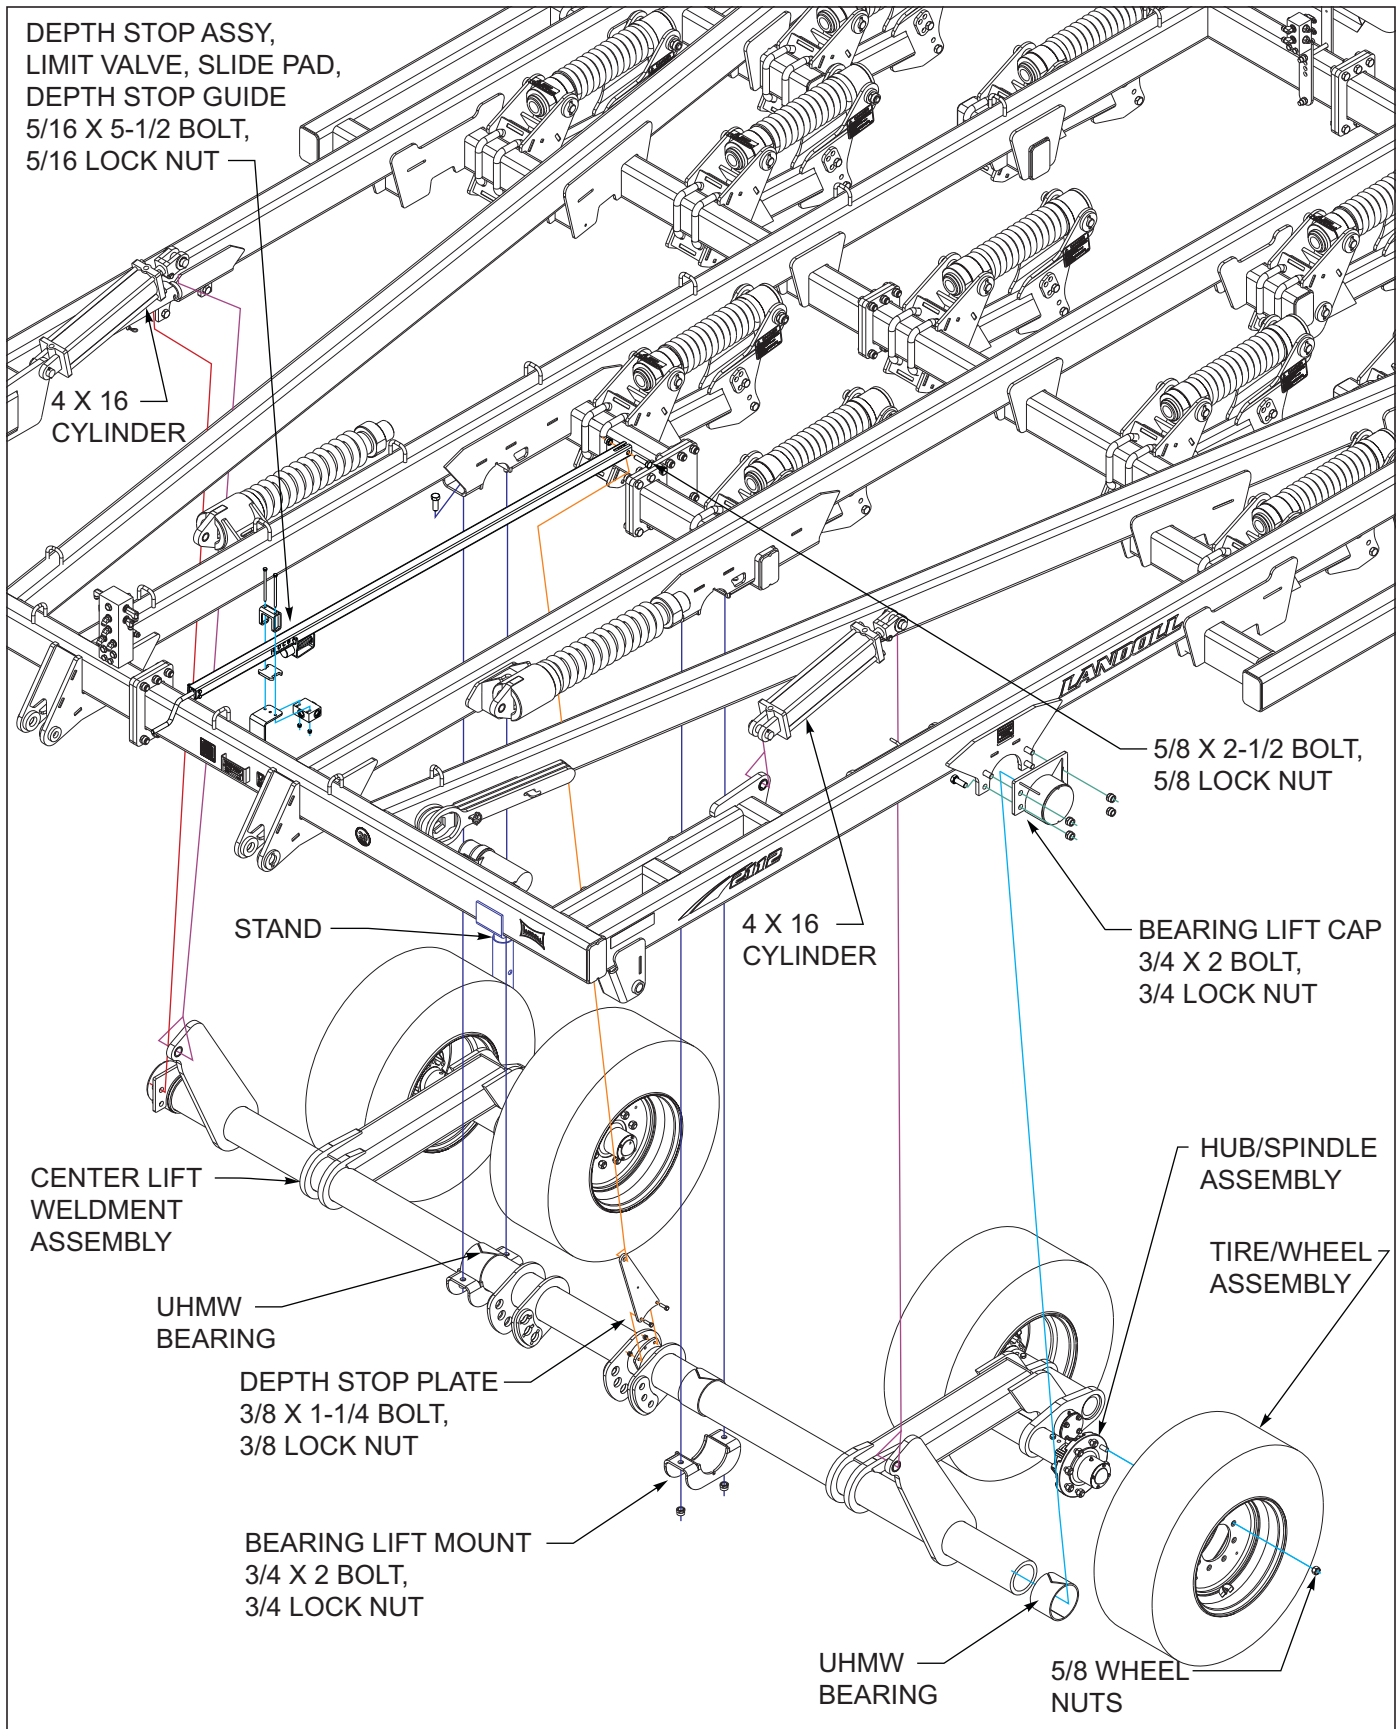

Figure 3-6: Center Frame Lift Assembly 2112-13-15
4. Install a UHMW bearing between both inner bearing locators around the center lift assembly *See Figure 3-6*.
9. Install the 4 x 16 lift cylinders, base end to ears on frame and rod end to center lift weldment assembly as shown *See Figure 3-6* with cylinder pins provided. Install with ports facing upwards.
11. Install the 340/65 R18 tire/wheel assemblies to all hub/spindle assemblies using 5/8 wheel nuts, *See Figures 3-6*. Torque to 85-100 ft/lbs.